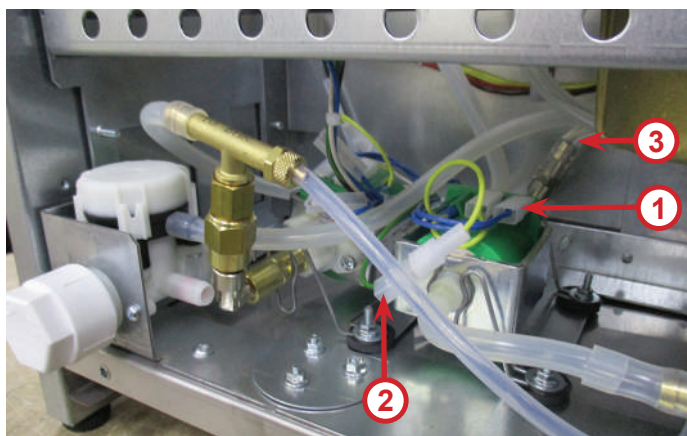

Fig.4.14a
- Disconnect the pump connectors (see fig.4.14a and 4.14b pos.1,2);
- Disconnect the silicone tube (see fig.4.14a and 4.14b pos.3);